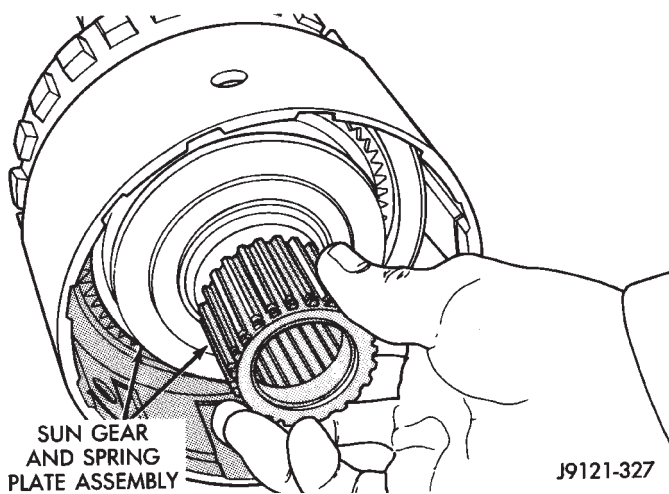

Fig. 229 Sun Gear Installation
(14) Install assembled sun gear, spring plate and thrust bearing (Fig. 229). Be sure sun gear and thrust bearing are fully seated before proceeding.